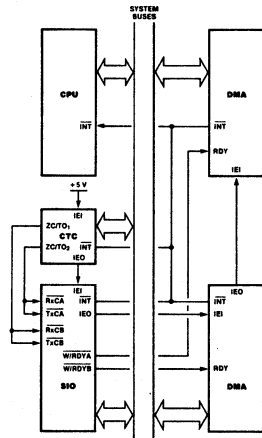

Figure 11. Typical Z-80 Environment
In a Z-80 CPU environment (Figure 11), SIO interrupt vectoring is "automatic": the SIO passes its internally-modifiable 8-bit interrupt vector to the CPU, which adds an additional 8 bits from its interrupt-vector (I) register to form the memory address of the interrupt routine table. This table contains the address of the beginning of the interrupt routine itself. The process entails an indirect transfer of CPU control to the interrupt routine, so that the next instruction executed after an interrupt acknowledge by the CPU is the first instruction of the interrupt routine itself.